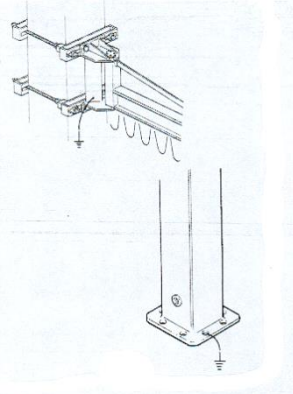

fig. 64
- Have earthing connected, to the structure of the crane, corresponding to the handling points for this Purpose (fig. 64).
- Have earthing connected, to the structure of the crane, corresponding to the handling points for this purpose (fig. 64).